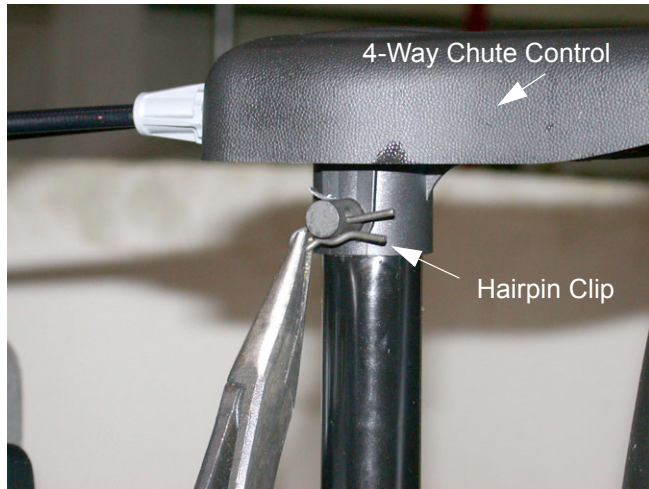

Figure 36
- 14.5. Use needle nose pliers to remove the hairpin clip from the clevis pin securing the 4-way chute control assembly to the chute support tube. Remove the clevis pin. See Figure 36.